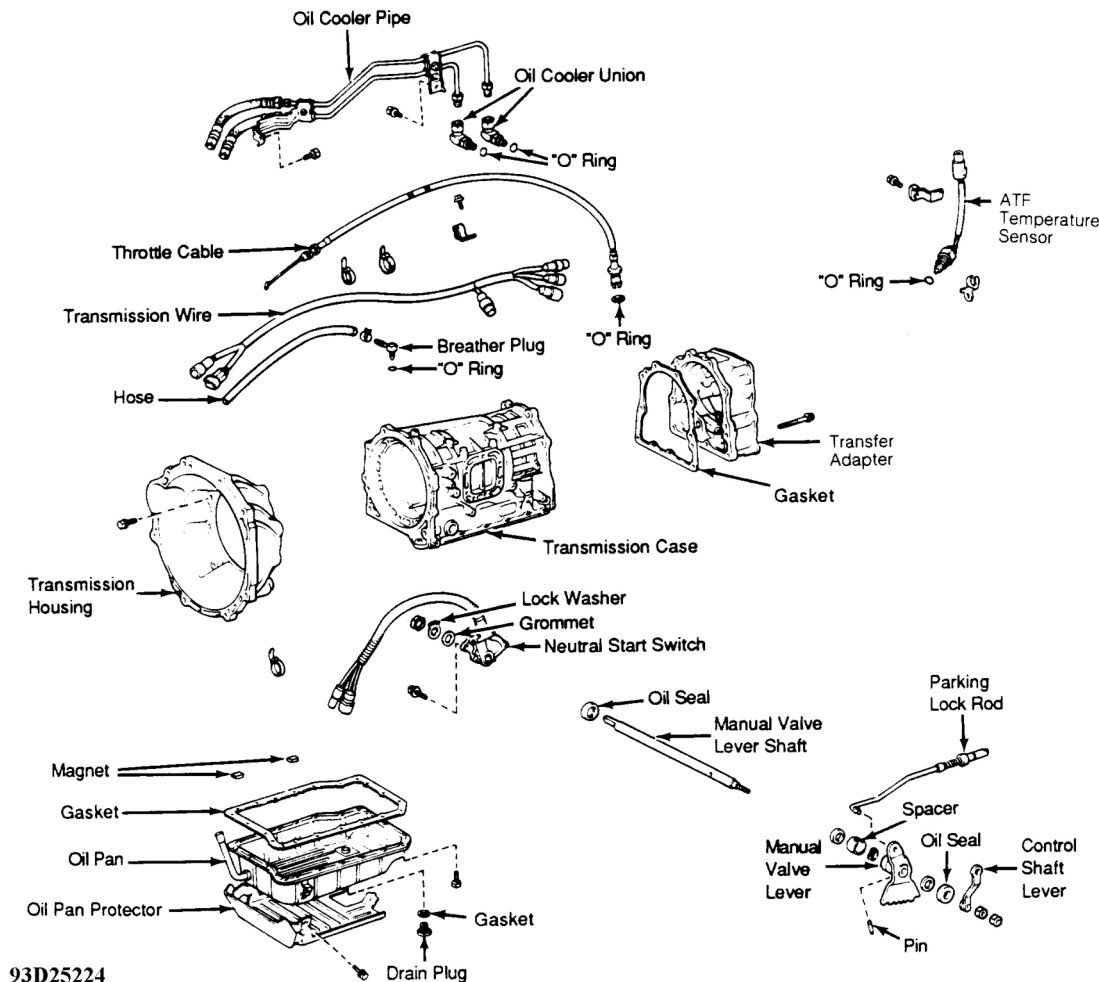
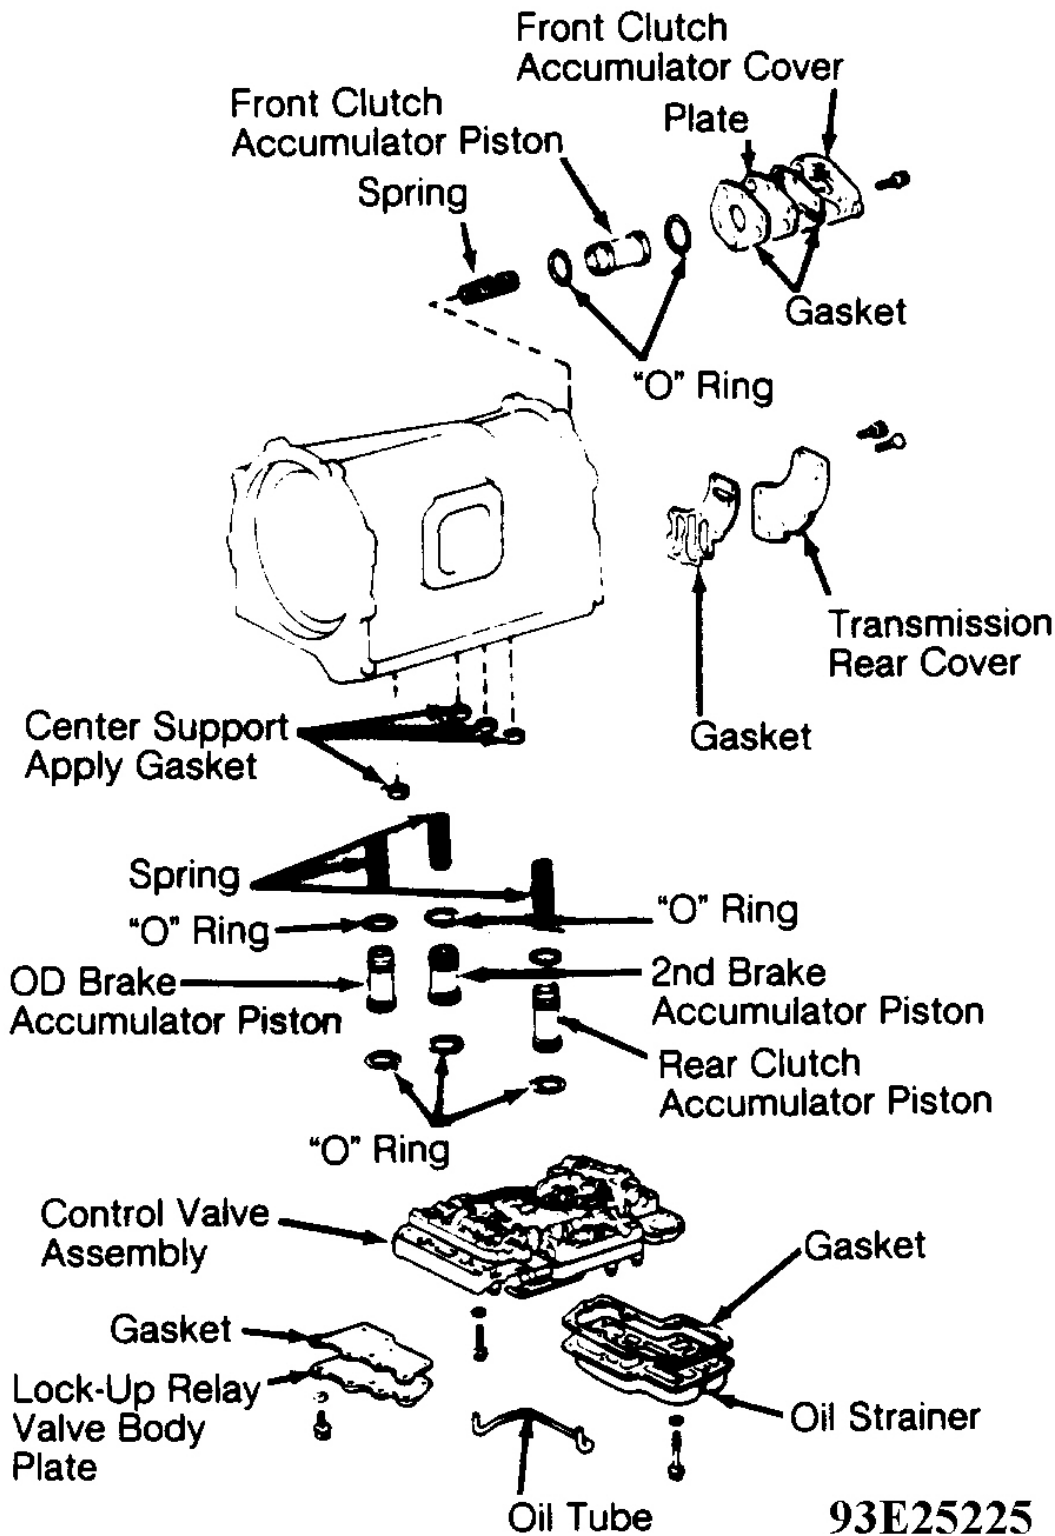
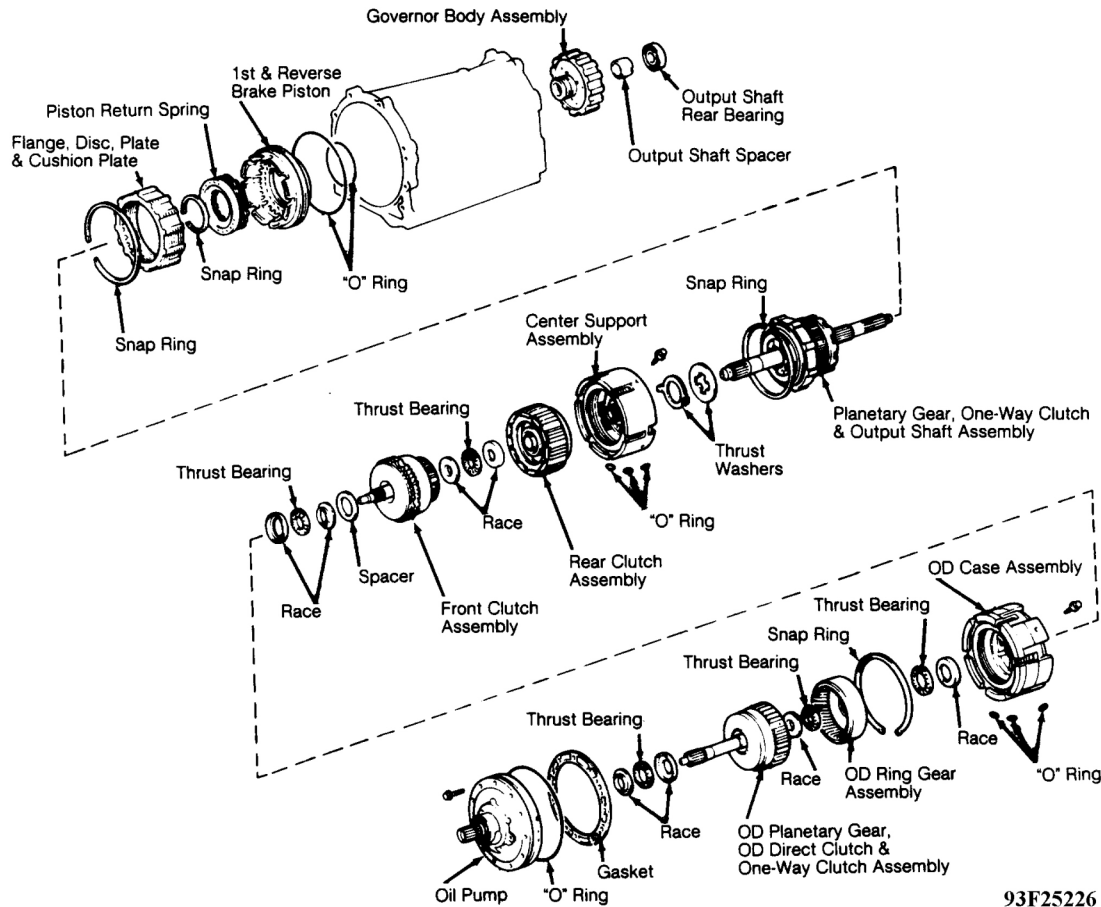

Fig. 11: Exploded View Of External Components
Fig. 12: Exploded View Of Center Components
Fig. 13: Exploded View Of Internal Components
12. Using screwdriver, remove snap ring. Remove OD case set bolts. Using Puller (09350-06140), remove OD case assembly. Remove "O" rings from oil holes in OD case. Remove oil seal ring from input shaft. Remove races, thrust bearing and spacer from front clutch drum or OD case. See **Fig. 13**.
21. Remove transmission rear cover and gasket. Remove manual valve lever, shaft and oil seals. Using a chisel, cut off spacer and remove from shaft. Tap out pin with a pin punch. Pull manual valve lever shaft out through case. Remove manual valve lever, parking lock rod, 2 plate washers and wave washer. Disconnect parking lock rod from manual valve lever. Using a screwdriver, pry out 2 oil seals. See **Fig. 11** , **Fig. 12** , and **Fig. 13** .